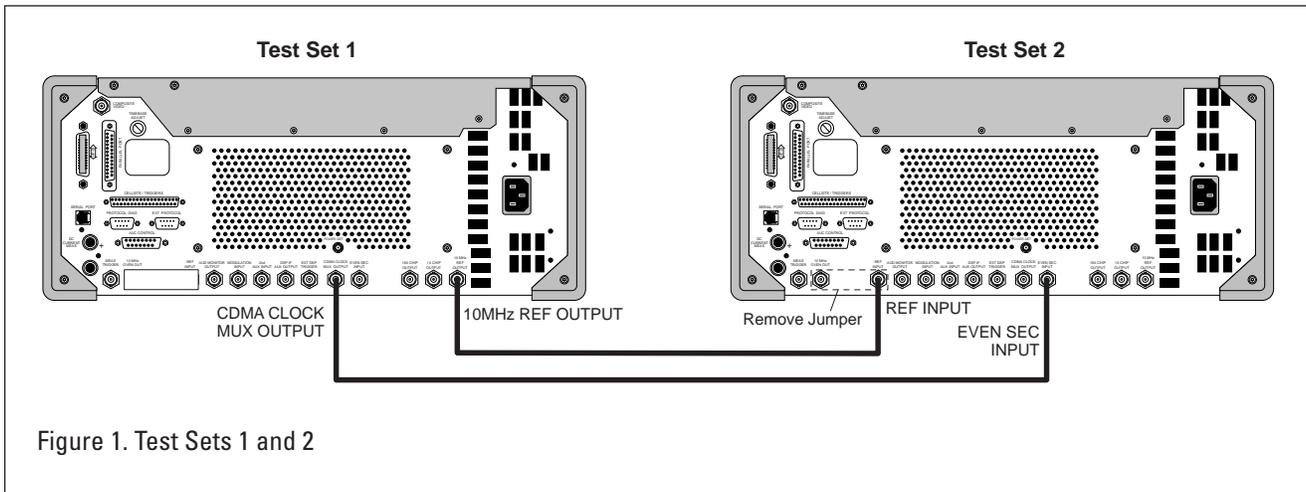

Figure 1. Test Sets 1 and 2
- Remove the jumper that connects the 10 MHz OVEN OUT to the REF INPUT on the rear panel of Test Set 2; see Figure 1.